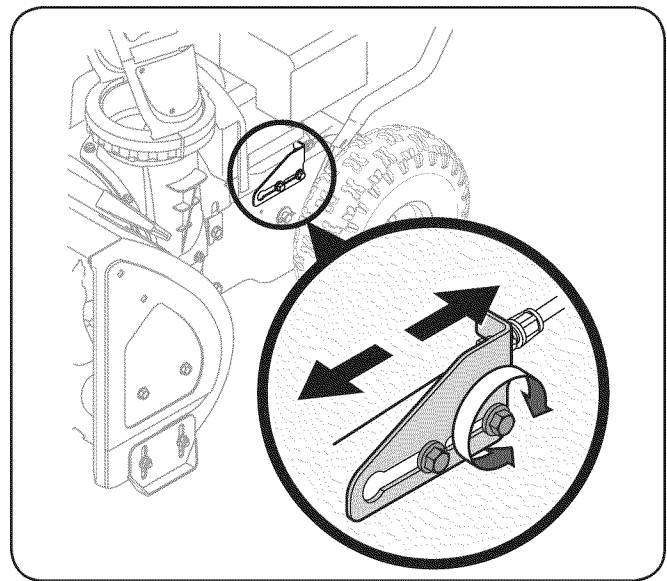

Figure 3-8
7. Loosen the rear hex bolt on the cable adjustment bracket. See Fig. 3-8.